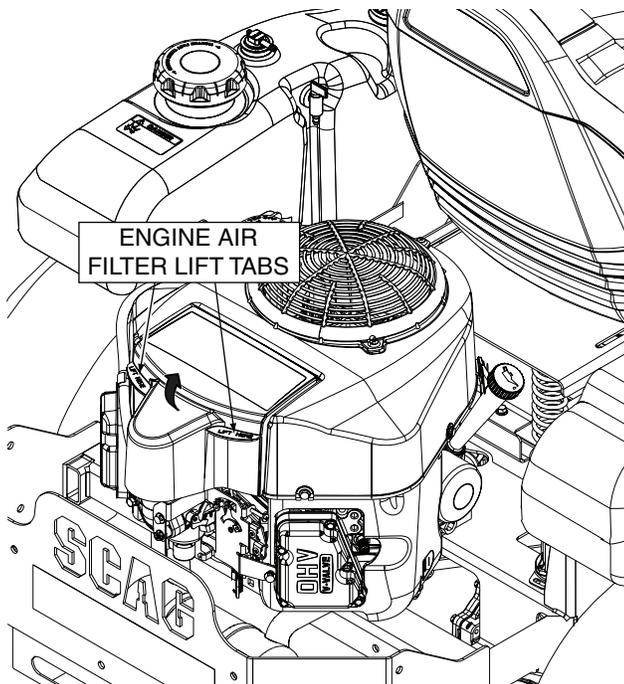

Figure 7-8. Engine Air Filter
1. Lift up on the two tabs securing the air cleaner cover to the air cleaner assembly. See Figure 7-8.